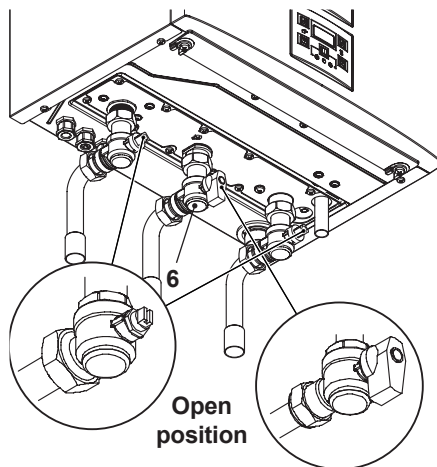

Fig. 7.1
- Open the gas cock 6 (Fig. 7.1) on the appliance and check the gas connector on the appliance for leaks.